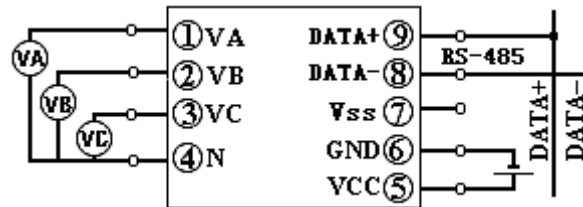

Fig. 3.5.4.3 for connections of CE-AV42, S3 case style
**3.5.4.2** See Fig. 3.5.4.4 for connections of CE-AV32, N case style.